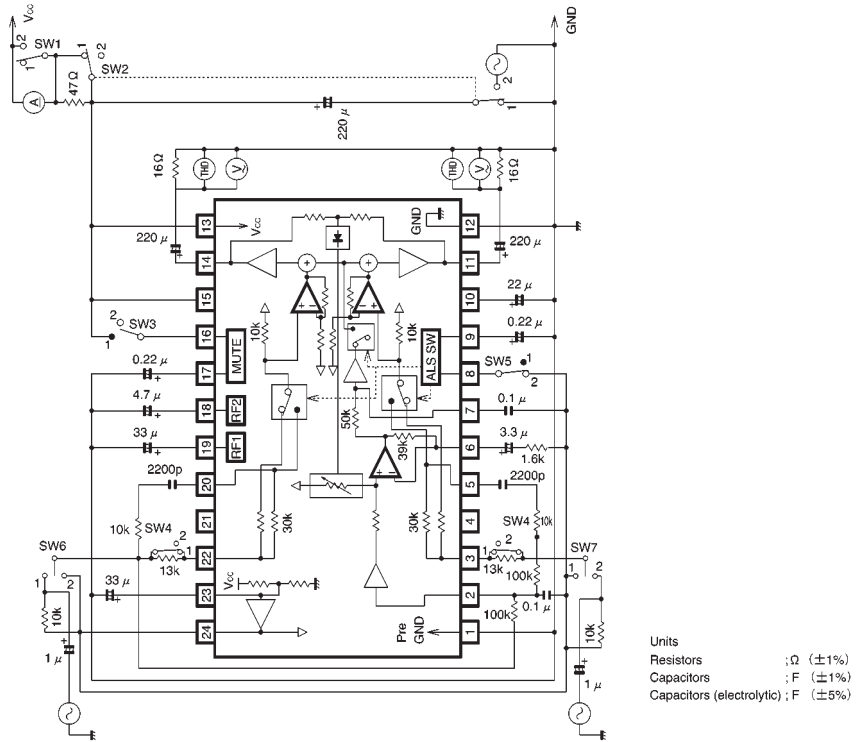

Fig.1
- Electrical characteristics (unless otherwise noted,  $T_a = 25^\circ\text{C}$ ,  $V_{CC} = 3.0\text{V}$ ,  $R_L = 16\Omega$ ,  $f = 1\text{kHz}$ , and the measurement circuit is as shown in Fig. 1)